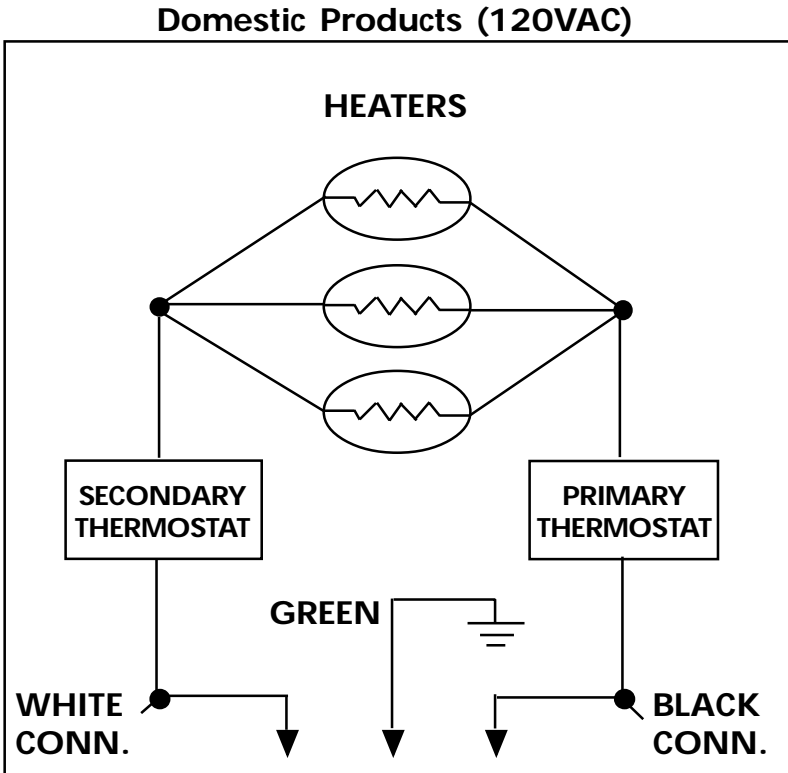

Figure 1. Wiring Diagram
*Check resistance across power leads (Figure1). With all heaters functioning, resistance should be 88 ohms. With two heaters functioning, resistance should be 132 ohms. And with only one heater functioning, resistance should be 256 ohms.